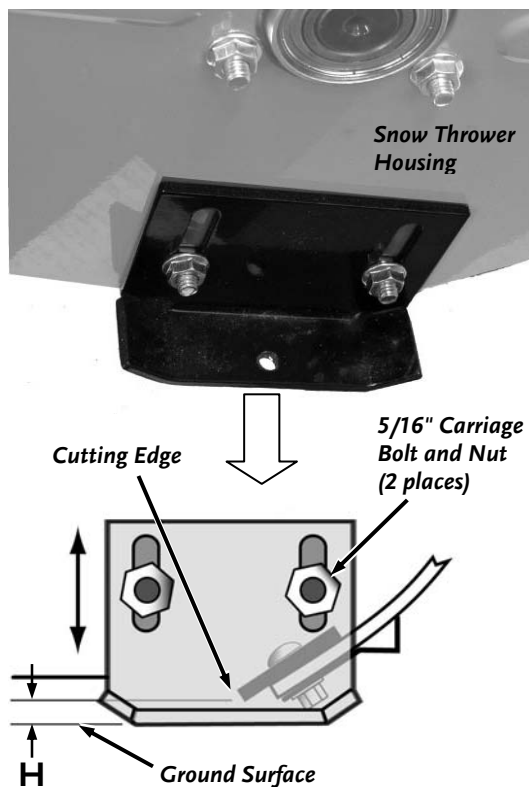

Figure 6
Adjust the Skid Shoes in order to allow the required clearance (H) between the Cutting Edge of the Snow Thrower and the surface that you are cleaning (**Figure 6**). For a level paved or cement surface, the clearance (H) should be $\frac{1}{16}$ " to $\frac{1}{8}$ ". For a gravel or uneven surface, depending on the gravel size, the clearance (H) should be $\frac{1}{2}$ " to $\frac{5}{8}$ ".
1. Using a 1/2" Wrench, loosen the two Nuts on the Carriage Bolts that retain the Skid Shoe (**Figure 6**). For ease of adjustment, loosen only one side at a time.
2. Adjust the Skid Shoe to the required height (H) and tighten the Nuts.